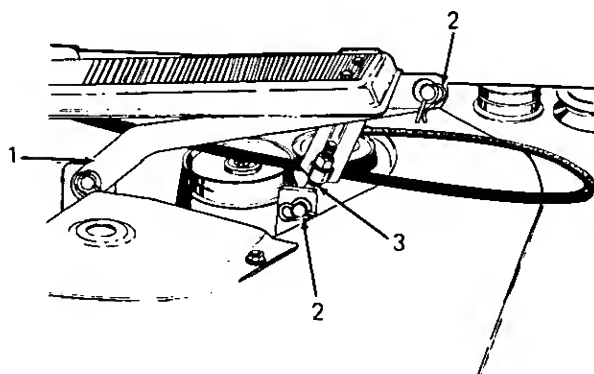

Figure 49. Right Side of Deck
2. Attach deck hangers and adjustable lift links using hairpin cotters and flat washers as shown in Figures 49 and 50.